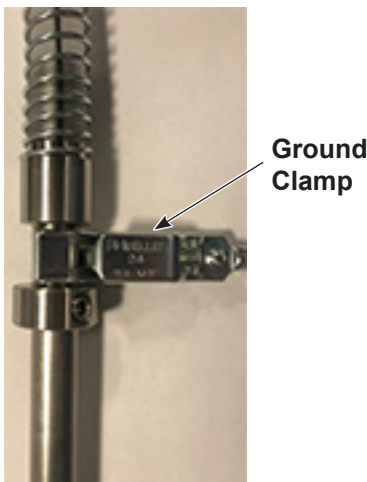

Figure 8 Install Ground Clamp
9. See Figure 8. Attach the ground wire with the clamp from the drum lid to the pipe of pickup tube above the collar.